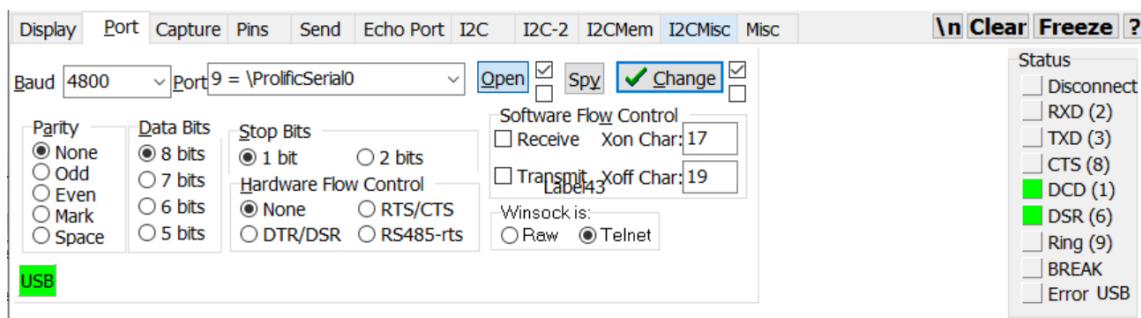

Figure 3: RealTerm: Baudrate
- iv) Configure Realterm (or equivalent tool) to use the appropriate COM port and baud rate. This can be done by clicking on **Serial Port/Port** tab and choosing appropriate COM port as the port to which the USB-to-UART adapter is connected. Set the baud rate to 4800 (the baud rate you have used in your program). Then click on **Open**. A screenshot of Realterm window with port and baudrate setting is shown in Figure 3.